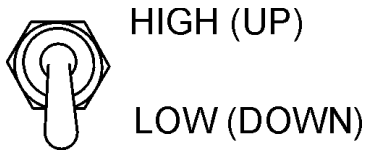

Figure 57. Engine Speed Switch
2. Set the engine speed switch (Figure 57) to the idle (low) position.